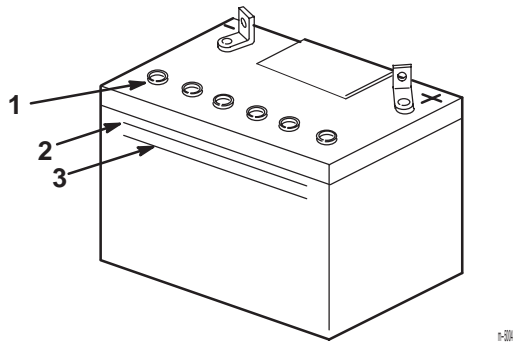

Figure 42
2. Look at the side of the battery. The electrolyte must be up to the upper line (Fig. 42). Do not allow the electrolyte to get below the lower line (Fig. 42).
3. Remove the vent caps from the battery (Fig. 42).
4. Slowly pour distilled water into each battery cell until the level is up to the upper line (Fig. 42) on the battery case.
5. Wait five to ten minutes after filling the battery cells. Add distilled water, if necessary, until the electrolyte level is up to the upper line (Fig. 42) on the battery case.